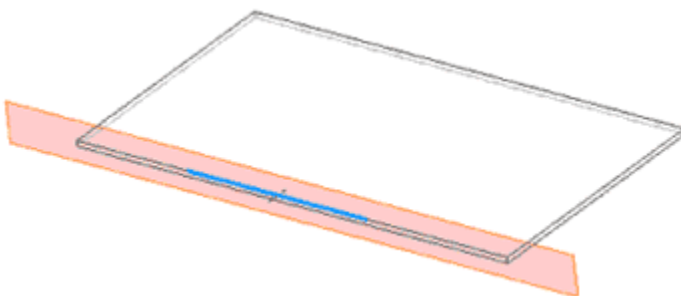

Figure 7: New sketch with Slice Graphics turned on.
4. Right-click in the graphics window and select Slice Graphics. Your view should match the one shown in Figure 7.